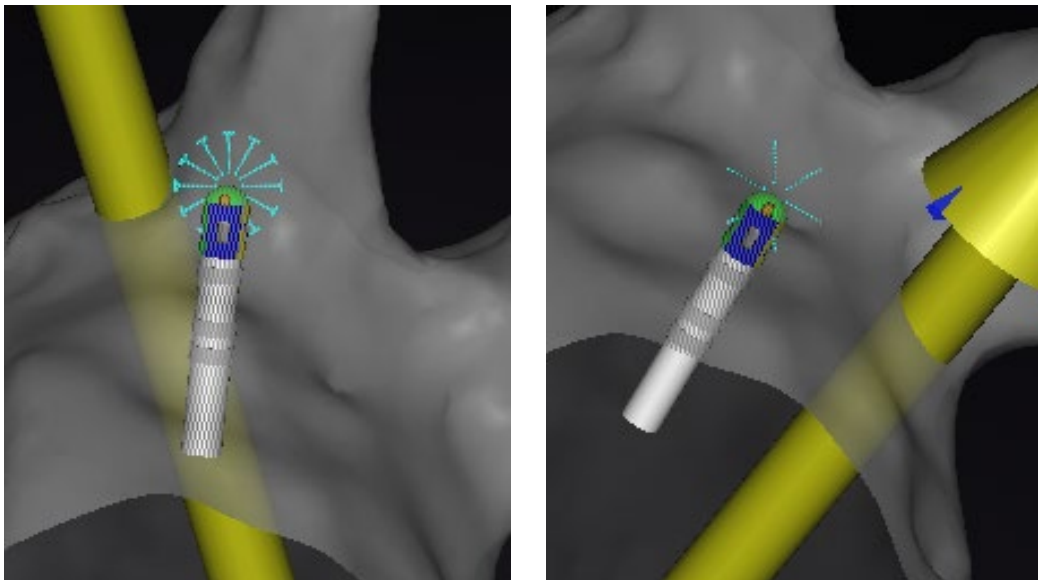

Figure 6. Examples of starburst in **Optimal Contact** (*left*) and **In Contact** (*right*)
- **Optimal Contact** (Figure 6, *left*)
- **In Contact** (Figure 6, *right*)